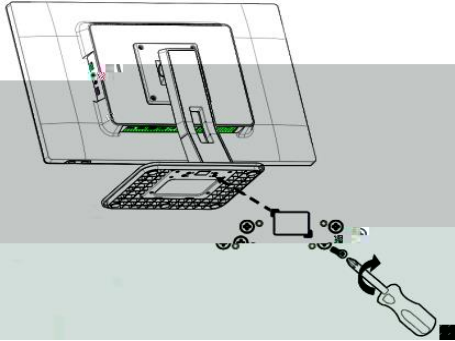

Figure 3 Installing the Base
2. Align the screw holes on the base with the screw holes on the RG-Rain200 V2 bracket, and tighten the M4 screws clockwise with a Phillips screwdriver, as shown in Figure 3.